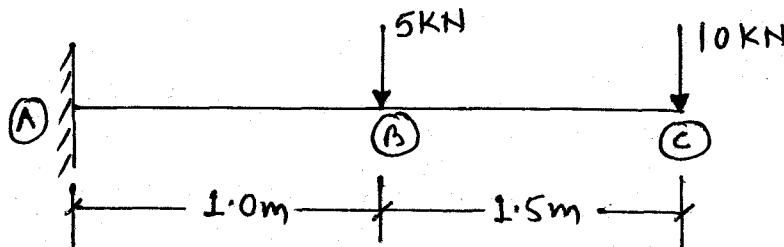

Fig.3
- Draw shear force and bending moment diagram of a given beam. (Fig. 3.)